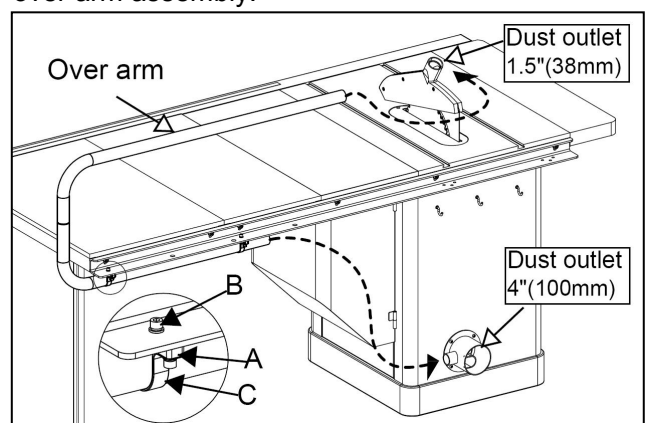

Fig.14
2. Installation of the over arm(Fig.14):
- a. Fit the bracket (A) to the rear rail with screw (B).
- b. Fit the over arm to the bracket (A) with clip (C).
- c. Connect the pipe (1.5") provided by us to the dust outlet as **Fig.14** shows.